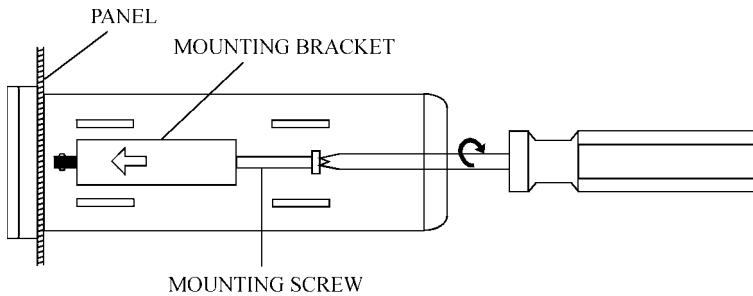

FIGURE 6 MOUNTING METHOD
3. Replace the mounting brackets assembly onto the panel meter and fasten the mounting screws to secure the panel meter to the mounting panel. (REFER TO FIGURE 6)